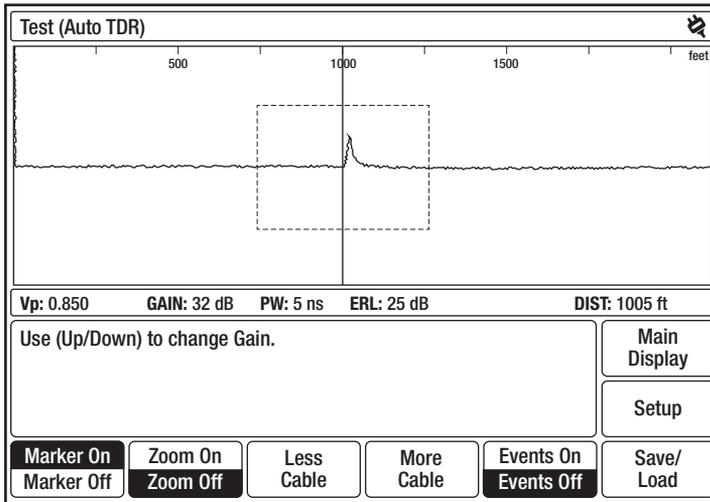

Figure 4-9: Test (Auto TDR) with Event Marking
The TV220 can measure Return Loss (RL) and Event Return Loss (ERL). Both RL and ERL measure the severity of an event. The difference between RL and ERL is that ERL measures the true severity of an event by subtracting the manufacturer's specified cable loss from the measurement. RL does not account for cable loss (Figure 4-9).